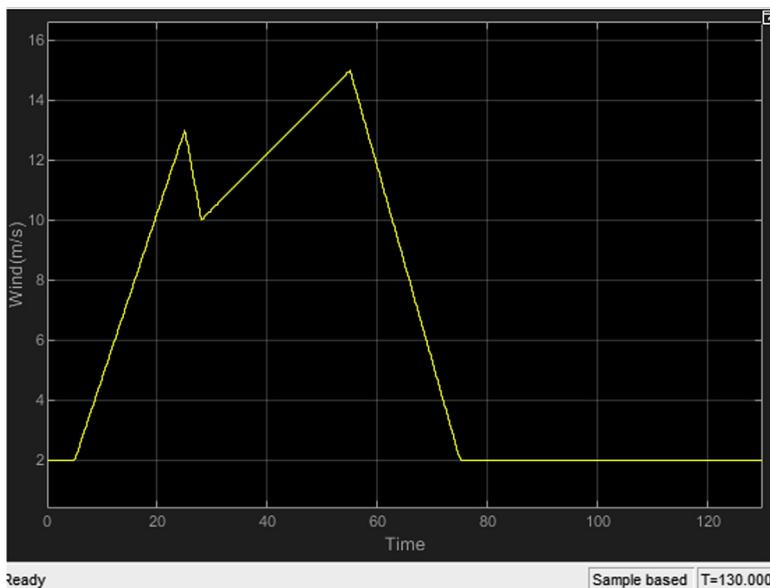

Figure 10.46 Wind speed input on DC motor driver model.
24. The changes for the DC motor driver model are complete. Connect the Arduino board to the USB port making sure the right port is selected for this model. Set the simulation time to 130 s, and press play to simulate the results. Double click on the wind speed scope in Chapter_10/Motor_Control/Motor_Speed_Reference_Generator/Main_Controller and the filtered motor speed scope in Chapter_10/Motor_Control/Motor_Speed_Sensor to visualize the results. The scope outputs for wind speed and motor speed are shown in Figs. 10.46 and 10.47, respectively.